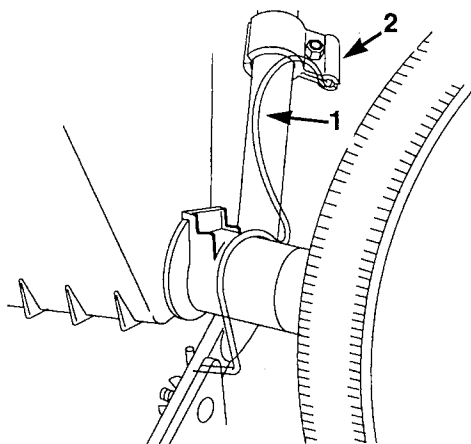

Figure 51
- D. Rotate the spring and insert its end into the hold-down clamp (Fig. 51).
1. Pull the hold-down spring out of the clamp (Fig. 51).